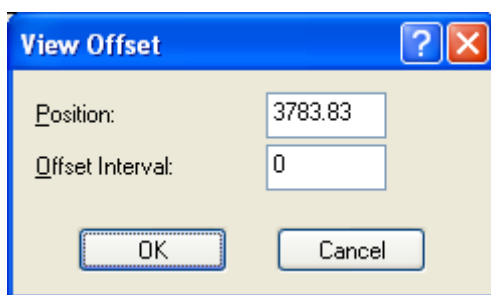

Figure 3.2 [View Offset] dialog box
- 2) Press and hold the right mouse button in a View. A red vertical cursor is displayed. To numerically set the vertical offset between spectra, a reference wavenumber from which vertical offsets are calculated must be selected. Move the vertical cursor to the appropriate location and release the button to display the following dialog box. (Fig. 3.2) Enter the reference x coordinate and offset interval, and click the <OK> button.